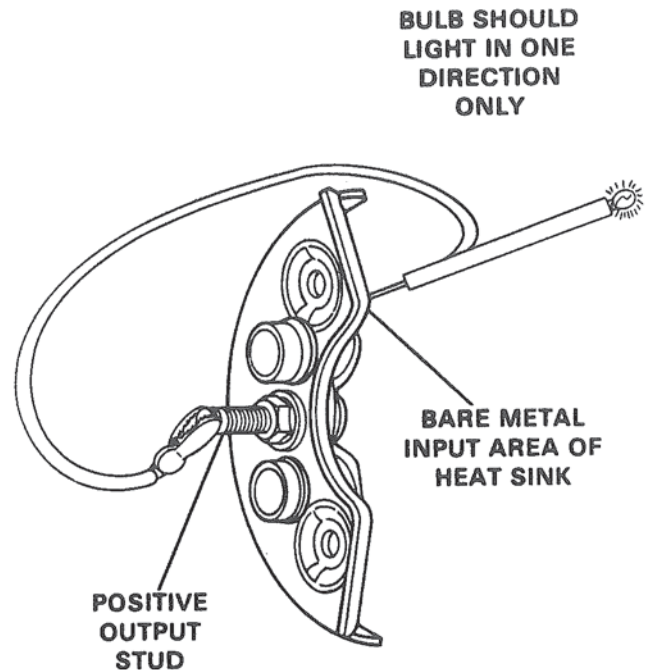

Figure 10. Isolation Diode Continuity Test.
- A. Test for determining if diode will pass DC voltage in only one direction is shown in Figure 10. Diode should be isolated from alternator.